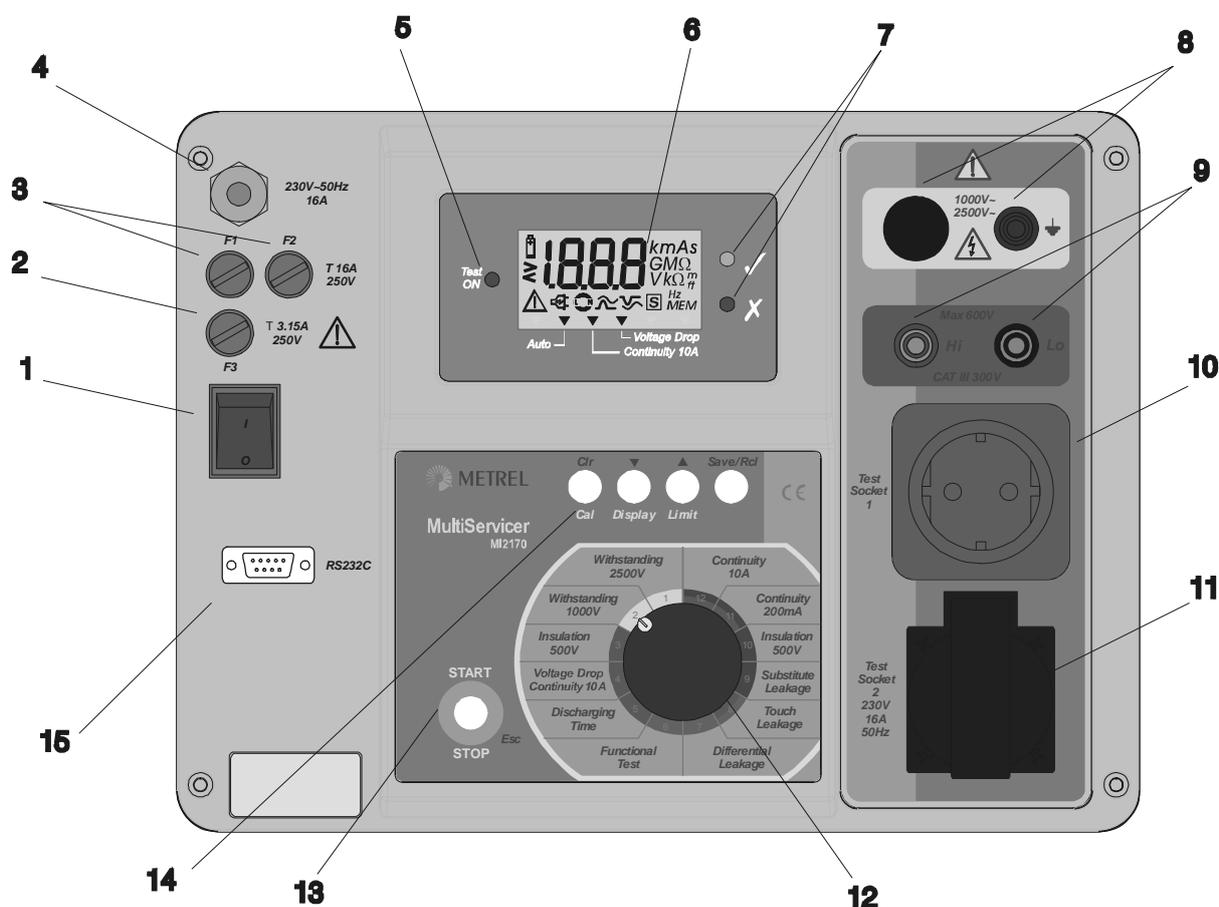

Fig. 1. Front panel layout
Withstanding terminals **Dangerous voltage** may be present. **Switch off** the instrument immediately if the TEST ON led (pos.5, fig. 1.) **does not** light after switching on HV generator and service the instrument. **Always** handle as if the test leads are energized.